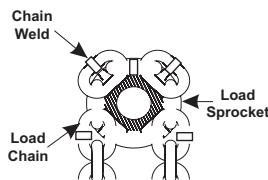

fig.3B
7. Install chain by running a piece of wire or string between chain guide roller and load sprocket and then over and around the load sprocket. Tie the chain to the wire or string and pull it into the hoist so that the first link is standing on edge in one of the slots of the load sprocket, with the weld away from the sprocket (see fig.3B). Shift the direction knob to neutral position and rotate hand wheel clockwise until the load chain in the load sprocket . Remove the cotter pin from the slack end pin and slide the pin to one side. Pull the end of the chain under the chain guide roller and hook the last link over the slack end pin, being sure the chain is not twisted. Slide the slack end pin back into position and install the cotter pin through it.